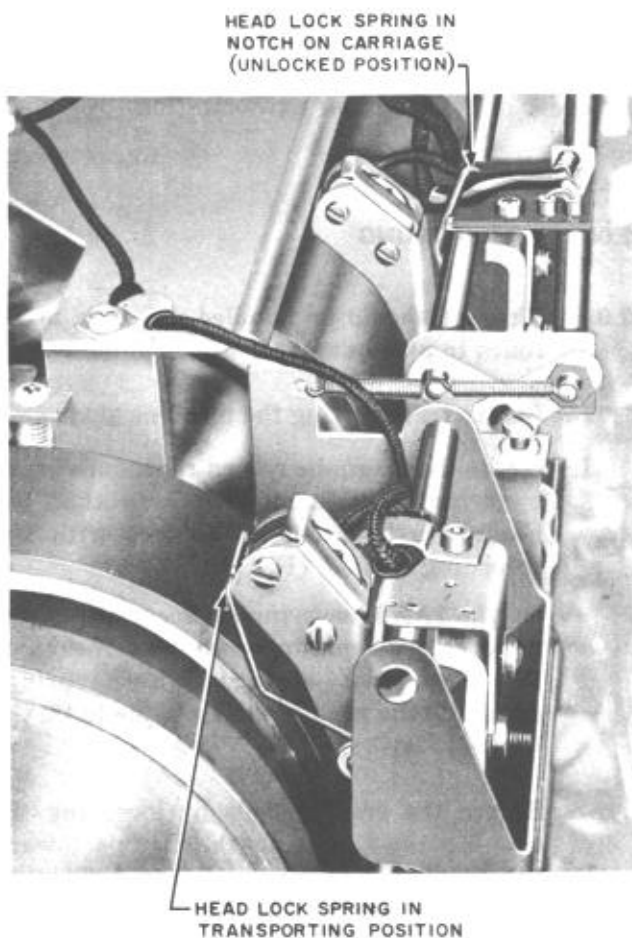

Fig. 3 — Record Reproduce Head Lock Springs for 1AA Answering Sets
- On the 1AA answering set secure the magnetic record-reproduce heads by means of the head lock springs. These springs eliminate the need of lacing twine to tie the heads (Fig. 3).
- On the 1AA answering set release the head lock springs holding the magnetic record—reproduce heads and place in notches (unlocked positions) on carriages (Fig. 3).